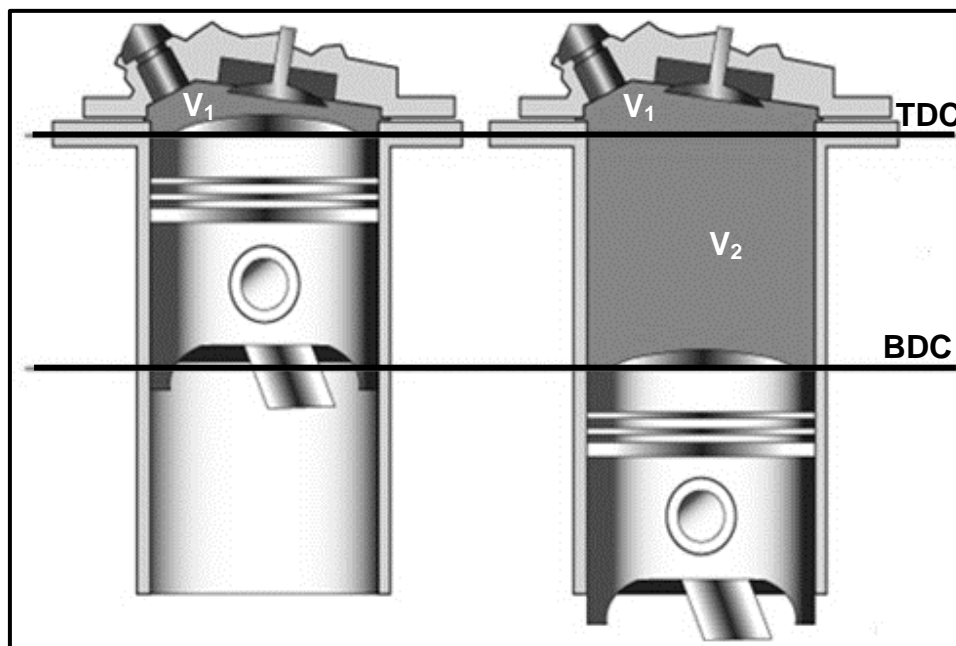

FIGURE 7.3
7.3 FIGURE 7.3 below shows a cylinder with the piston at TDC and the same cylinder with the piston at BDC. The following information is applicable: